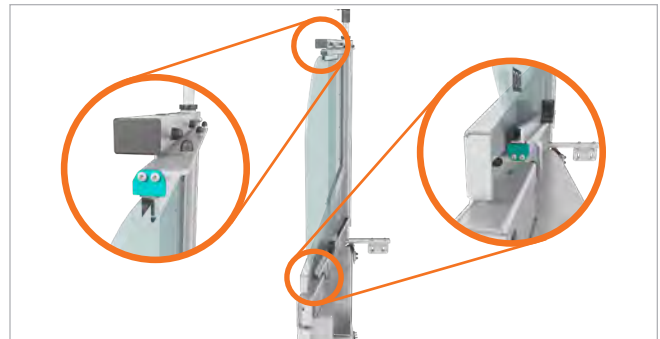

Figure 1 – Upper and lower glass stops.
1. Using the Torx T20 screwdriver, ensure that the upper and lower glass stops are tightened to a torque of 23 in.-lbs. Refer to **Figure 1** for location of the glass plates.